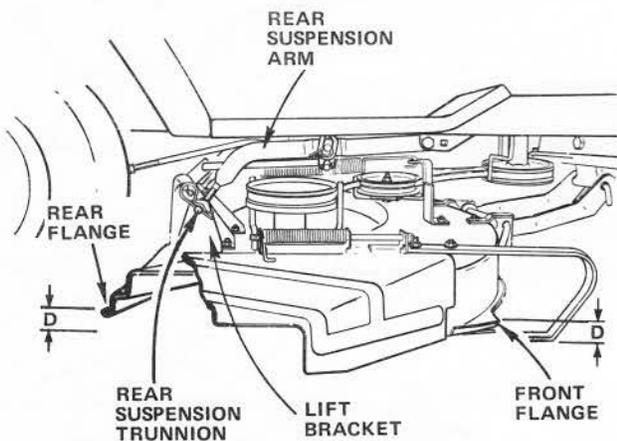

FIGURE 17
1. To obtain the best cutting results, your Mower Housing should be adjusted so the Front and Rear Flange distance "D" (Fig. 17) is 5/16" lower in front when the mower is positioned in the highest cutting position. NOTE: MEASURE DISTANCE "D" FROM SURFACE TO RIGHT REAR FLANGE AND COMPARE TO DISTANCE "D" AT RIGHT FRONT FLANGE.